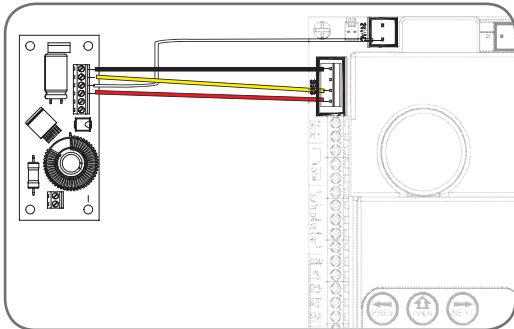

Fig 11
4. Plug the Charger Board's three wire harness (red/yellow/black) into the CB-11 board's "SBY-3" connector (Fig. 11).
5. Plug the Charger Board's one wire harness (white) into the "24vac in" connector on CB-19 control board (Fig. 11).